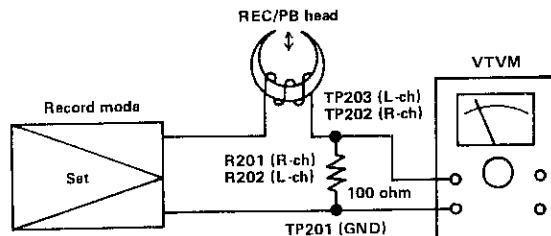

Figure 17-2
- Make connection of instruments as shown in Fig. 17-2, and adjust variable resistor VR205 or VR206 so that bias current available with the tape selector switch set at each position is shown in Table 17-1.